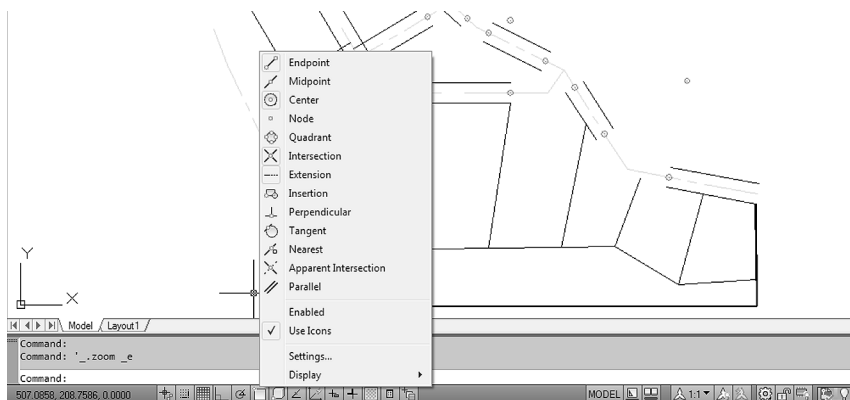

Figure 2.17
A menu of Object Snap modes and in Figure 2.17.
*Click: **Settings** from the menu (see Figure 2.17)*